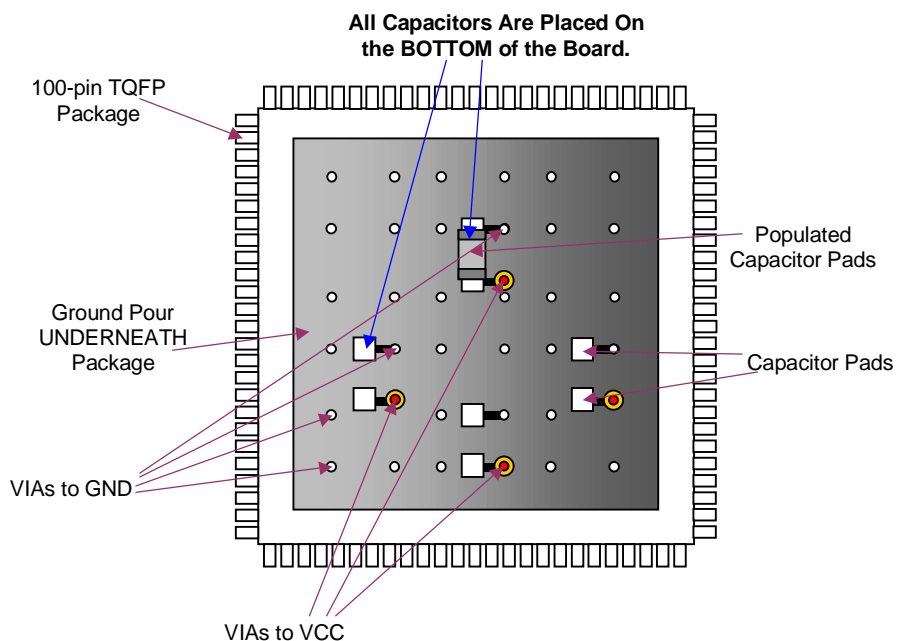

Figure 2. Ground Pour Decoupling.
5. Decouple the center ground plane with 0.01uF capacitors on the bottom side of the ground pour (see *Figure 2*).